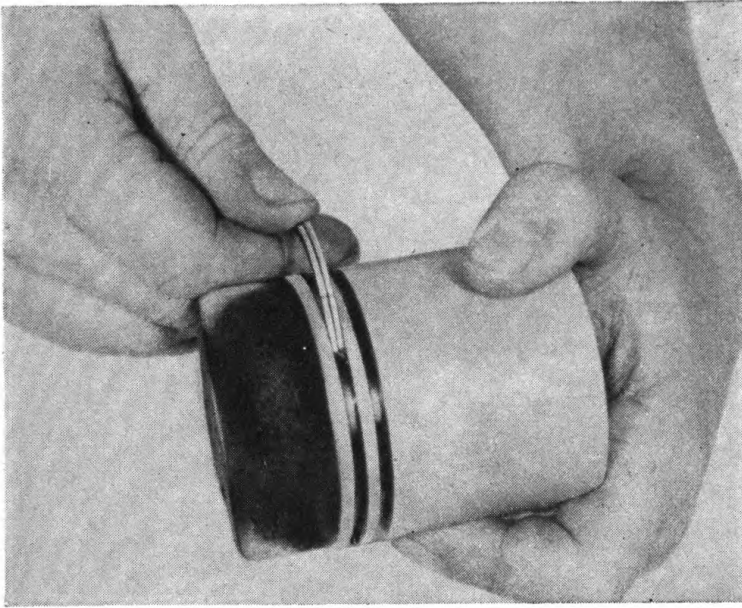

Figure 74. Cleaning carbon from piston grooves with piece of broken piston ring.
q. PISTONS AND PISTON RINGS. (1) Check pistons carefully for score marks and stuck piston rings. Badly scored or burned pistons should be replaced.
(2) Clean out carbon from ring grooves. To do this grind or file square end of about one-third of broken piston ring, using this as a tool with which to clean carbon out of ring grooves. (See fig. 74.)
(3) After grooves are cleaned thoroughly, new rings may be assembled. Clean piston and ring in cleaning solvent and blow dry with compressed air or wipe dry with clean cloth. Rings should fit freely in grooves.
(4) When all rings have been installed properly and all parts are cleaned thoroughly, they are assembled to connecting rods.